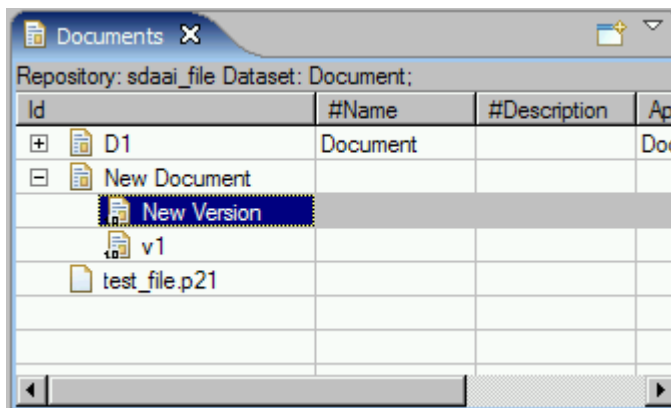

Figure 2. New version node in the tree
- The new version node appears under the selected document (see Figure 2).